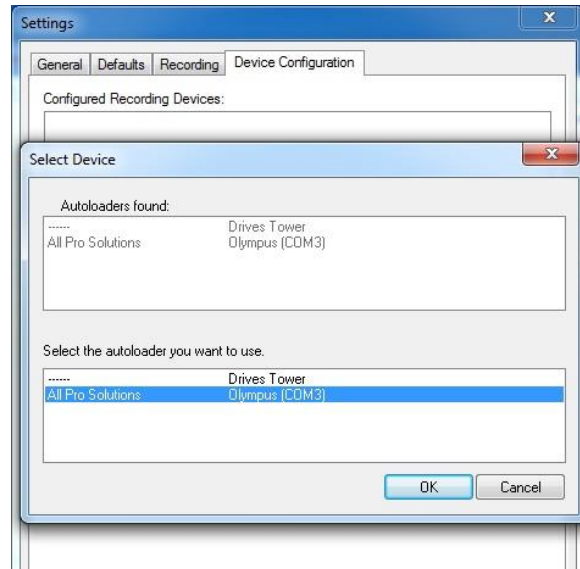

fig.2
- Select Configuration > Settings > Device Configuration > to setup all devices correctly. (fig.2).
- You will have a screen showing “Autoloaders Found” and will list “Drives Towers” and “Olympus (COM3)”. Make sure to select the “Olympus” option.(fig.2)